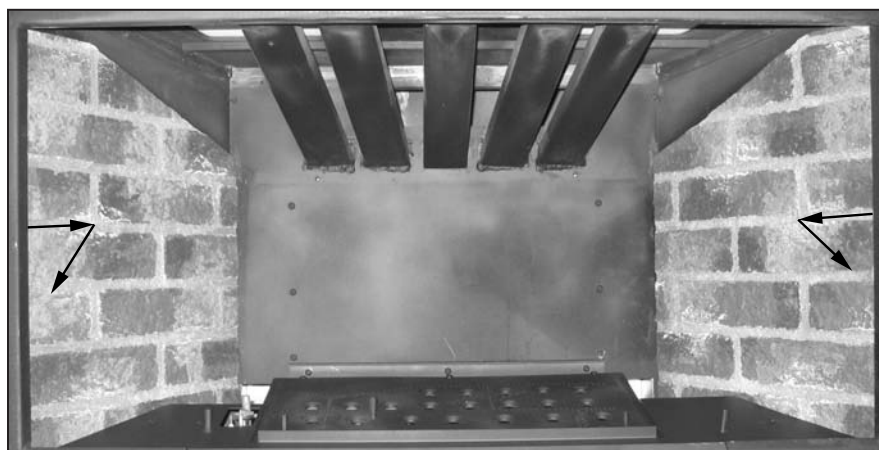

Figure 40: Brick Panel Installation.
8. Pull the panels out of the lips at the front of the firebox and carefully remove the panel from the unit (shown in Figure 40).